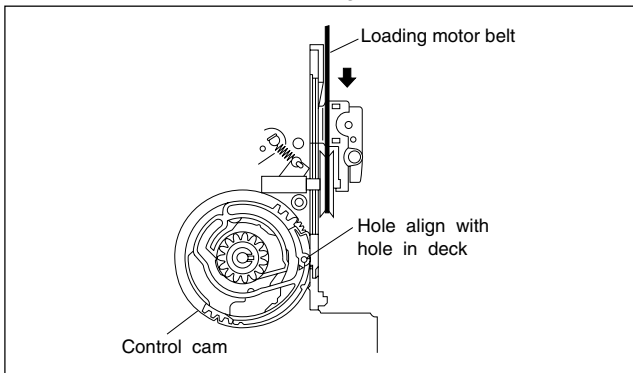

Fig. 2-2-2a
- (1) Turn the loading motor belt by hand.
- (2) Confirm that the hole of the control cam are aligned to the deck hole as shown in Fig.2-2-2a.